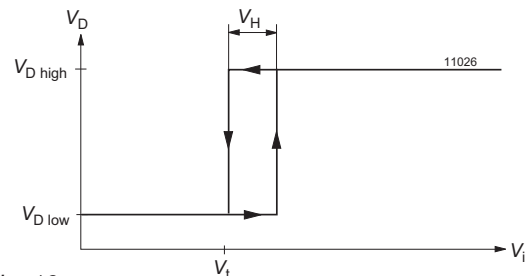

Fig. 16 Definition of V_t and V_H
The switching characteristics of the option D output are shown in fig. 16.
- Battery sensor [S-KSMH...] for using the regulator as battery charger. Different cell characteristics can be selected; see fig. 16 and the Temperature Sensors Data Sheet BCD20024 on our web site.